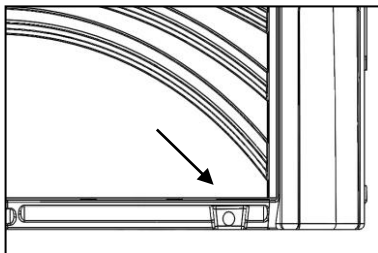

Figure 2
2. Insert the thicker side of the one of BASE TUBES into the bottom of the spa at the location shown in Figure 2.
3. Remove the strap by pinching the two barbs of the strap as indicated (fig 2).